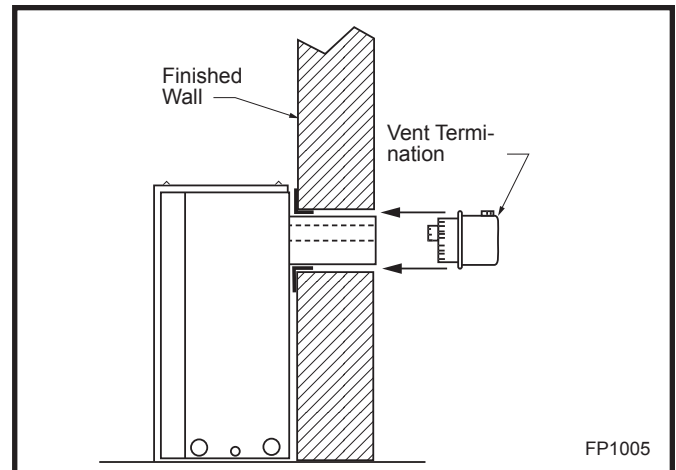

Fig. 17 Side view of final unit location.
Slip 4" (102 mm) and 7" (178 mm) pipes onto respective flue collars. Make sure to fix to the fireplace collar the 4" pipe with three (3) screws before fixing the 7" pipe on the 7" collar. Both pipes must be on a level plane. (Fig. 17)